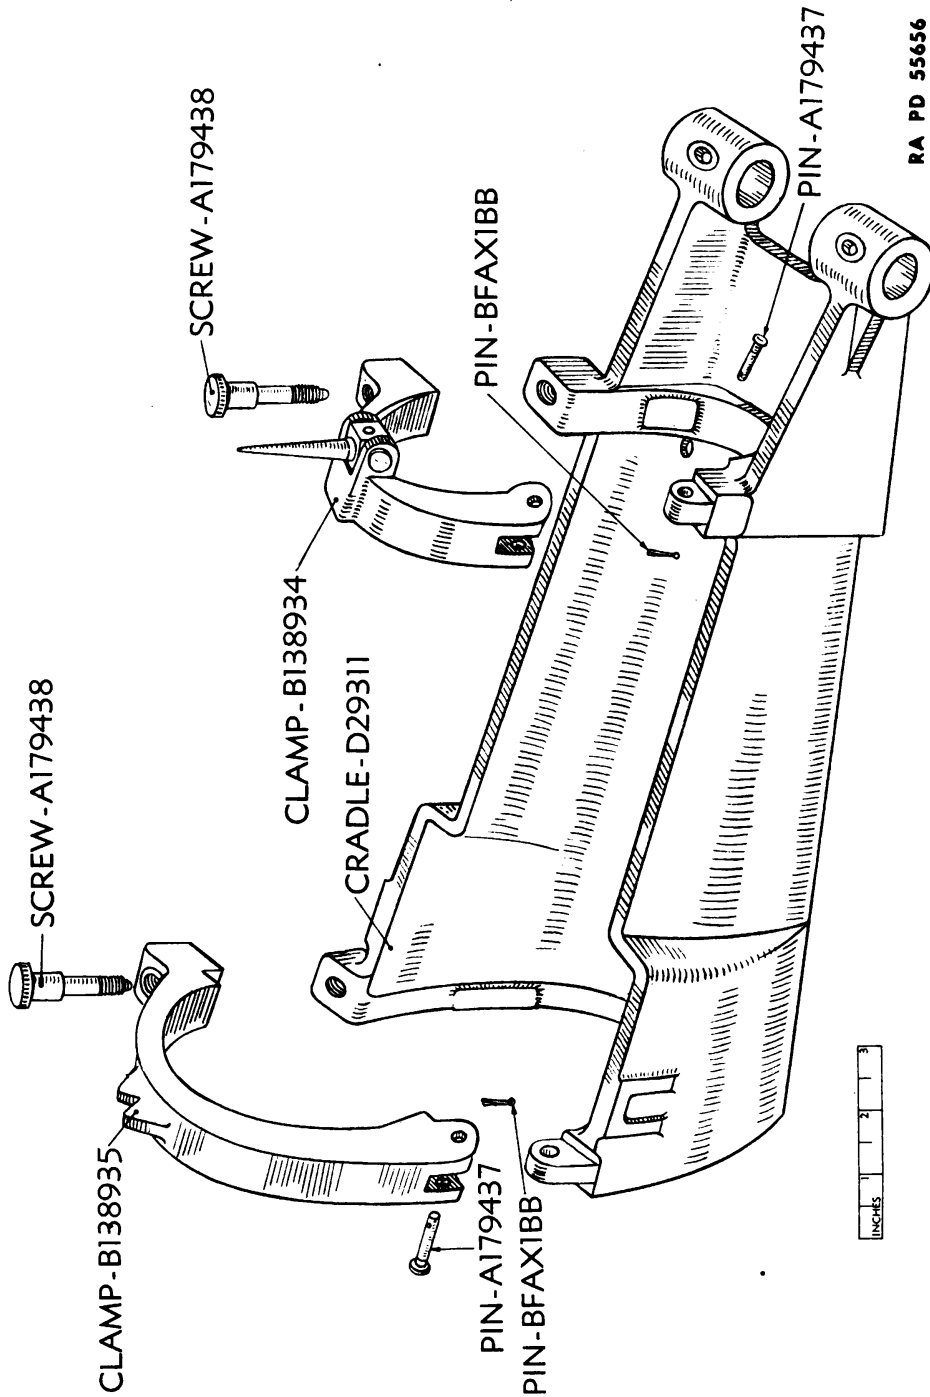

Figure 23—Cradle and Clamp Assembly—Exploded View
(1) Unscrew the two thumbscrews A179438 on the left-hand side of cradle clamps (fig. 23). This releases thumbscrew from cradle.
(2) Remove cotter pins BFAX1BB from two pivot pins A179437 on right-hand side and remove pivot pins. Remove cradle clamps.